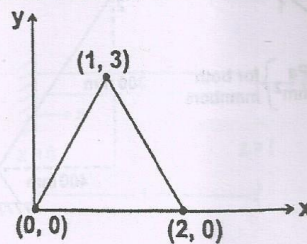

Figure 14 (a)
14. (a) Calculate the thermal force vector for the plane stress element shown in Figure 14 (a). The element experience a 10°C increase in temperature. Assume Young's modulus $E = 15 \times 10^6 \text{ N/cm}^2$, Poisson's ratio $\mu = 0.25$, coefficient of thermal expansion $\alpha = 6 \times 10^{-6} \text{ cm/cm}^\circ\text{C}$ and the element thickness $t = 0.5 \text{ cm}$. All coordinates are in centimeters.